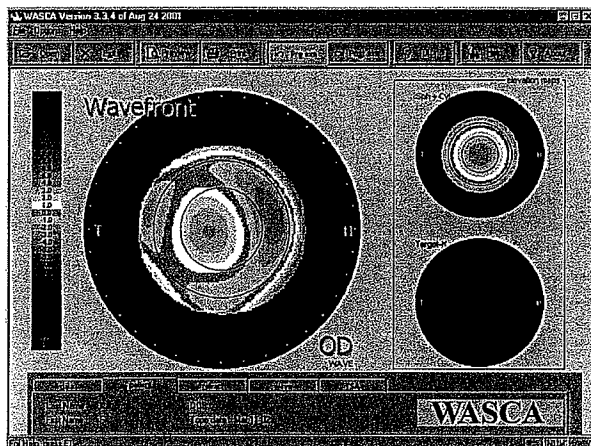

Fig 4: Patient data and wavefront maps
- Check the data diameter (the circular rings in the map show a 3mm, 5mm and 7mm zones). The zone with wavefront data should match approx. the pupil diameter of the measurement (approx. 6mm in Fig 4).